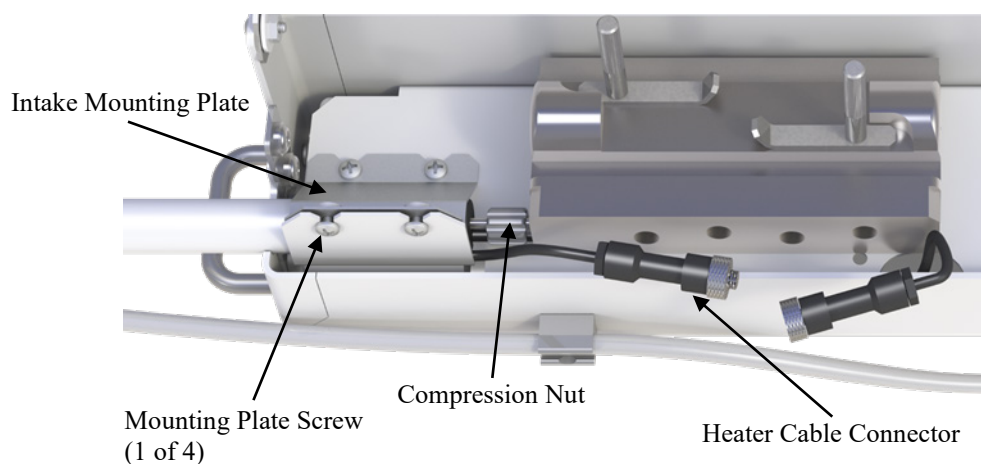

FIGURE C-1. Identification of parts for detaching intake with heater cable shown disconnected
5. Disconnect the heater cable connection. See FIGURE C-1.
6. Loosen the four screws that secure the intake mounting plate in place and remove the plate. See FIGURE C-1.
7. Locate the black nut next to the stainless steel block of the sample cell that holds the stainless steel sample tubing in place by compressing two rubber o-rings around the tubing. Loosen this nut roughly two full turns but don't remove it. See FIGURE C-1.